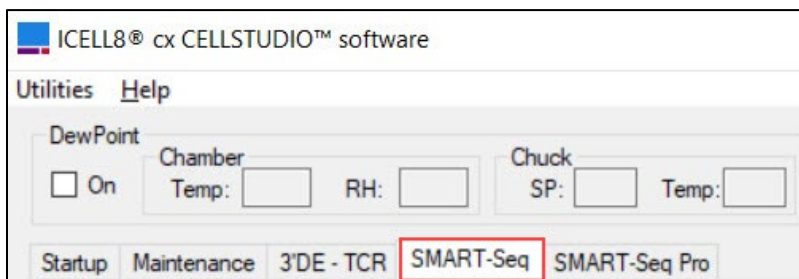

Figure 64. The *SMART-Seq* application tab.
2. In the CELLSTUDIO interface, select the desired application from the available tabs on the top, left edge of the main workspace (Figure 64, below). The SMART-Seq ICELL8 cx application will be used to illustrate the basic workflow.